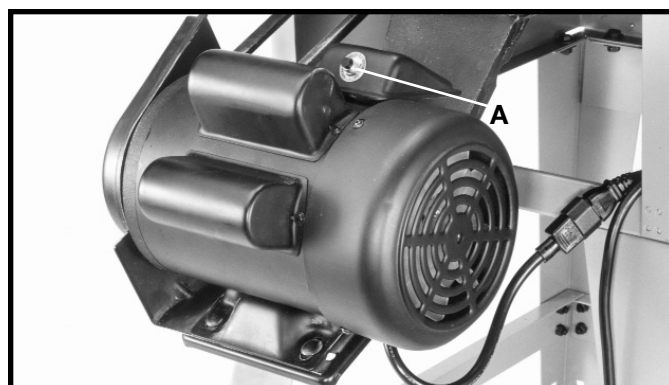

Fig. 43A
The motor recommended for use with your saw is equipped with a resettable overload relay (A) Fig. 43A. If the motor shuts off or fails to start due to overloading (cutting stock too fast, using a dull blade, using the saw beyond its capacity, etc.), or low voltage, turn the switch to the "OFF" position, let the motor cool three to five minutes and push the reset button (A), which will reset the overload device. The motor can then be turned on again in the usual manner.